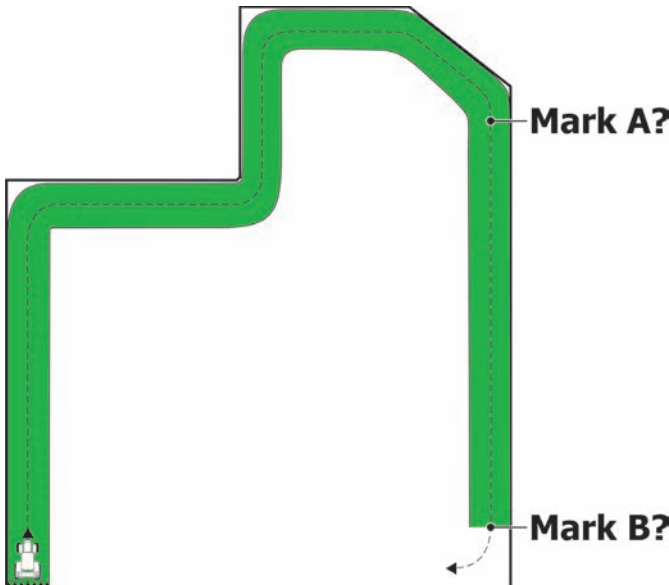

Fig. 218
- Set at the beginning of field to spray (Fig. 218).